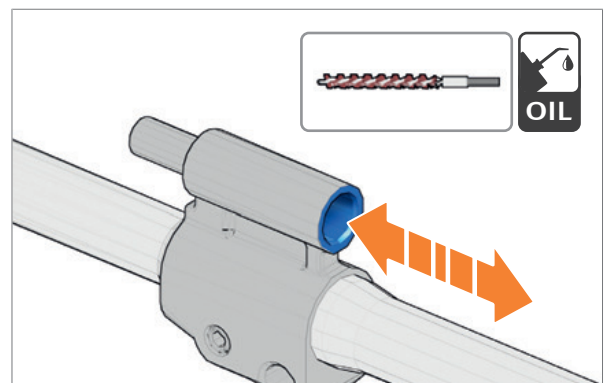

Fig. 116: Clean gas port
8. Clean inside of gas port with barrel cleaning brush (Fig. 116).